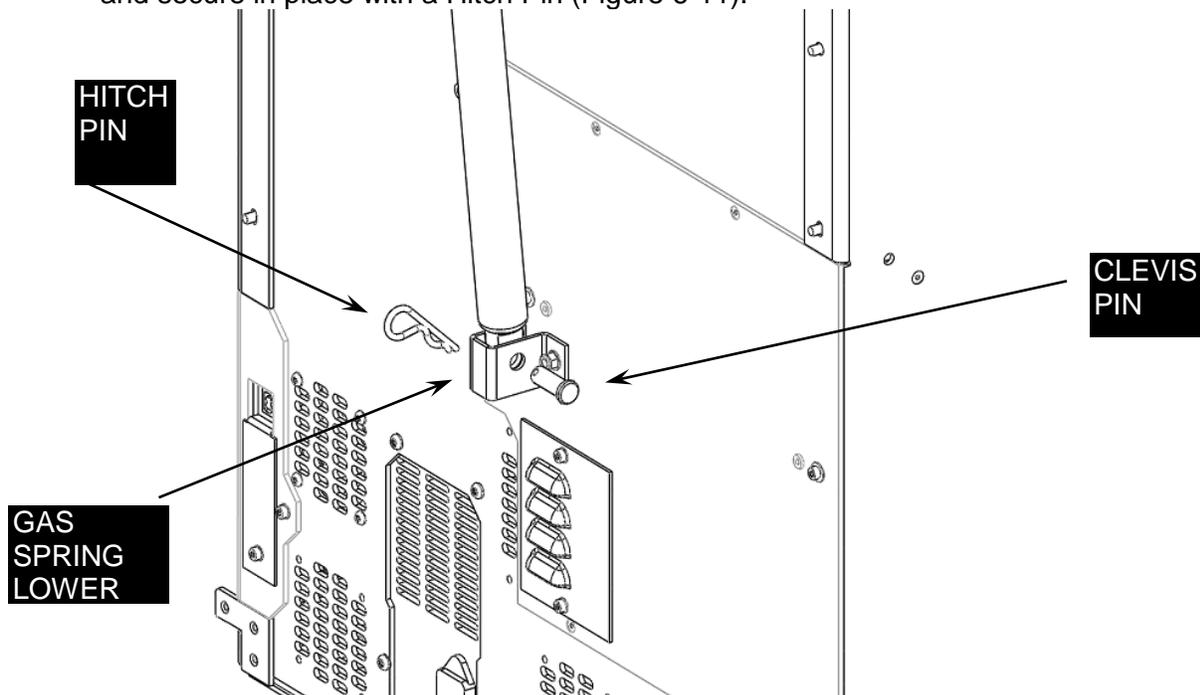

Figure 6-11: Attaching Gas Spring, Part 3
9. Support the Blue Cover and line up the bottom of the Gas Spring with the hole in the Gas Spring Lower Bracket. Fit the Clevis Pin through the bracket and Gas Spring and secure in place with a Hitch Pin (Figure 6-11).